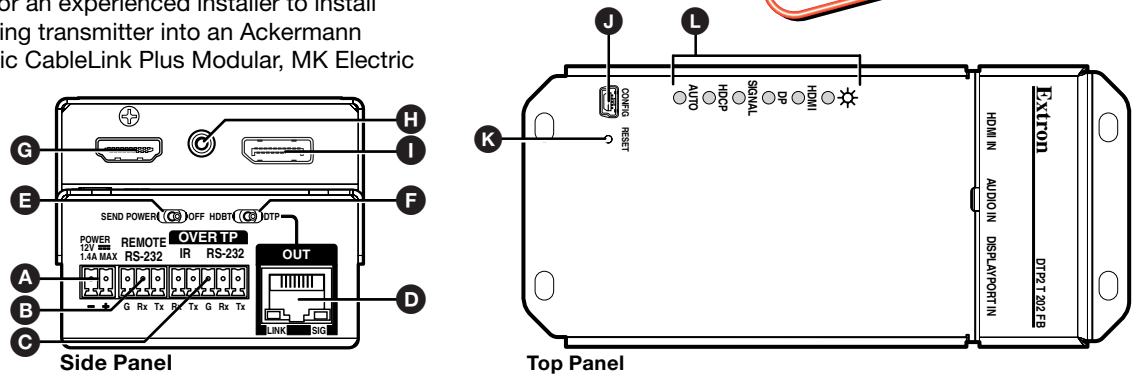

Figure 1. DTP2 T 202 FB Unit features
- A Power** (see **figure 1** on page 1) — Connect the included 12 VDC power supply to either unit, transmitter or receiver, as shown at right. Use the included tie-wrap to strap the cord to the captive screw connector.
G HDMI input port (see figure 1 on page 1) — Connect an HDMI cable between this port and the HDMI output port of a video source.
Indicators (L, see figure 1)